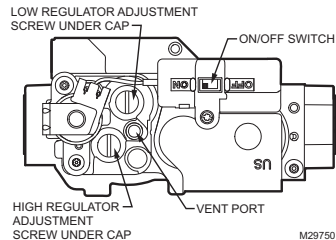

Fig. 1. Conversion kit installation regulator.
2. Remove regulator cap screws and pressure regulator adjusting screws from Hi and Lo Regulator Towers. Refer to Fig. 1.